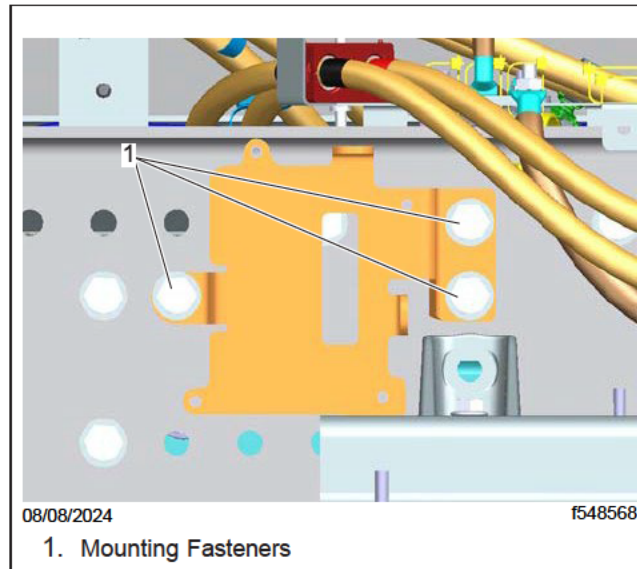

Fig. 6, ETCM Bracket
15. Remove the three mounting fasteners from the ETCM bracket. See Fig. 6.